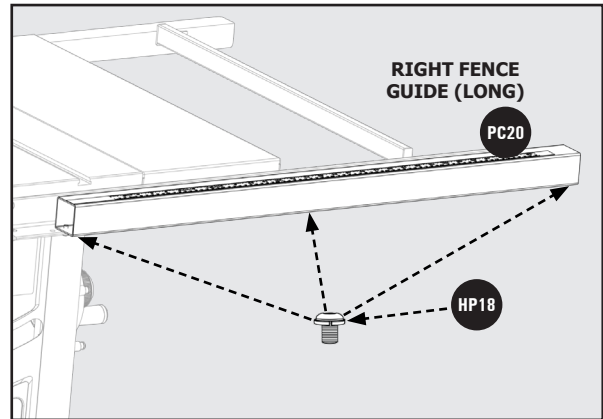
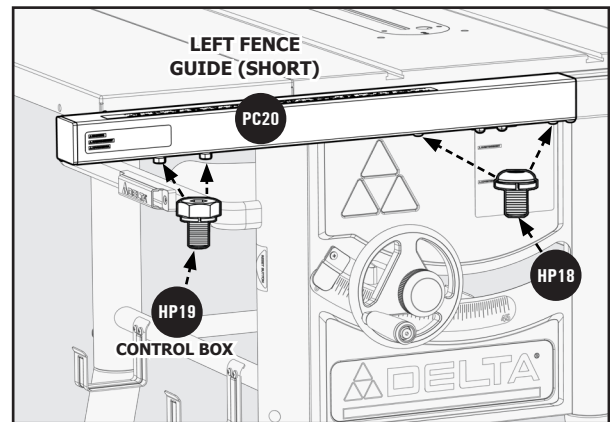
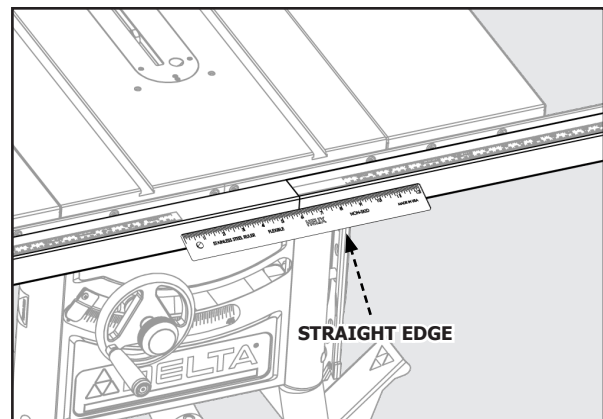

Figure 13
Figure 14
Figure 15
1. Attach the Right Fence Guide (PC20) using (3) 1/4-20 x 1/2 inch Button Head Hex Screw with Split Lock Washers (HP18) through the holes on the bottom side of the Front Rail. See Figure 13.
2. Attach the Left Fence Guide to the Front Rail (PC20) using (2) 1/4-20 x 1/2 inch Button Head Hex Screw with Split Lock Washers (HP18) through the right two holes on the bottom side of the left half Front Rail (PC19). **NOTE:** Leave these screws loose until the control box screws are started.
3. Align the two holes in the Switch Box Bracket with the holes underneath the Front Rail (PC19), see Figure 14, located on the left side of the saw. Secure the Power Control Box to the Front Rail (PC19) using (2) 1/4-20 x 1/2 inch Hex Screw with Split Lock Washers (HP19). Use a ruler to check that both Left and Right Fence Guides are parallel. See Figure 15.